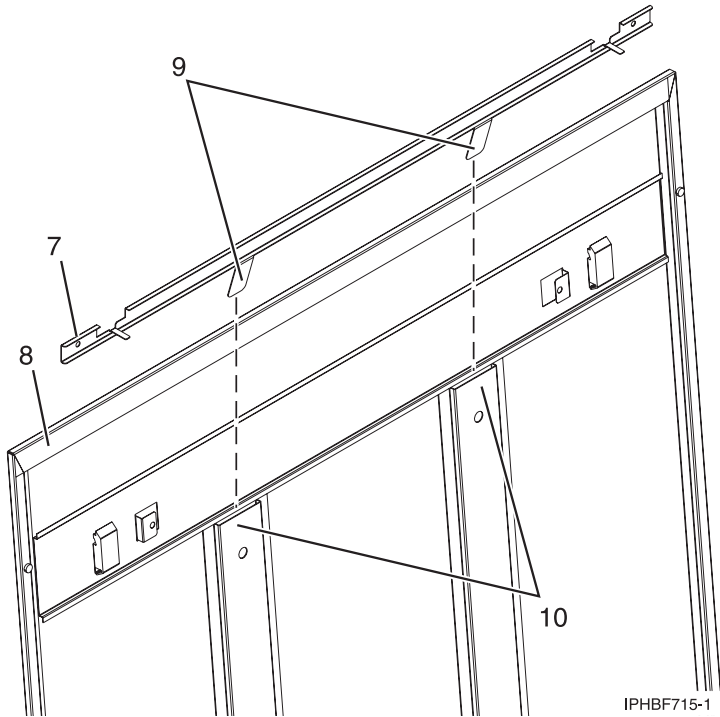

Figure 29. Installing a security slide bar.
- b. With the flat side of the slide bar rail 7 in Figure 29, facing the inside of the cover panel 8, insert the two tabs 9, on the slide bar rail into the two vertical support channels 10 on the side cover panel.